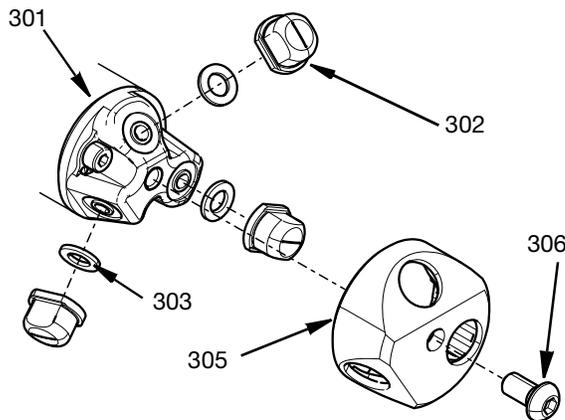

FIG. 5
1. Place three nozzle packing gaskets (303) into matching recess's of the nozzle head (301).
2. Nozzles (302) must be inserted in the nozzle cap (305) making sure the nozzle is keyed into the nozzle cap.
3. The nozzle cap with the nozzles inserted, must be firmly fixed to the nozzle head (301) using the M6 hex button head screw (306) in the center of the cap. Torque to 29.2 in-lbs (3.3 N•m). See FIG. 5.